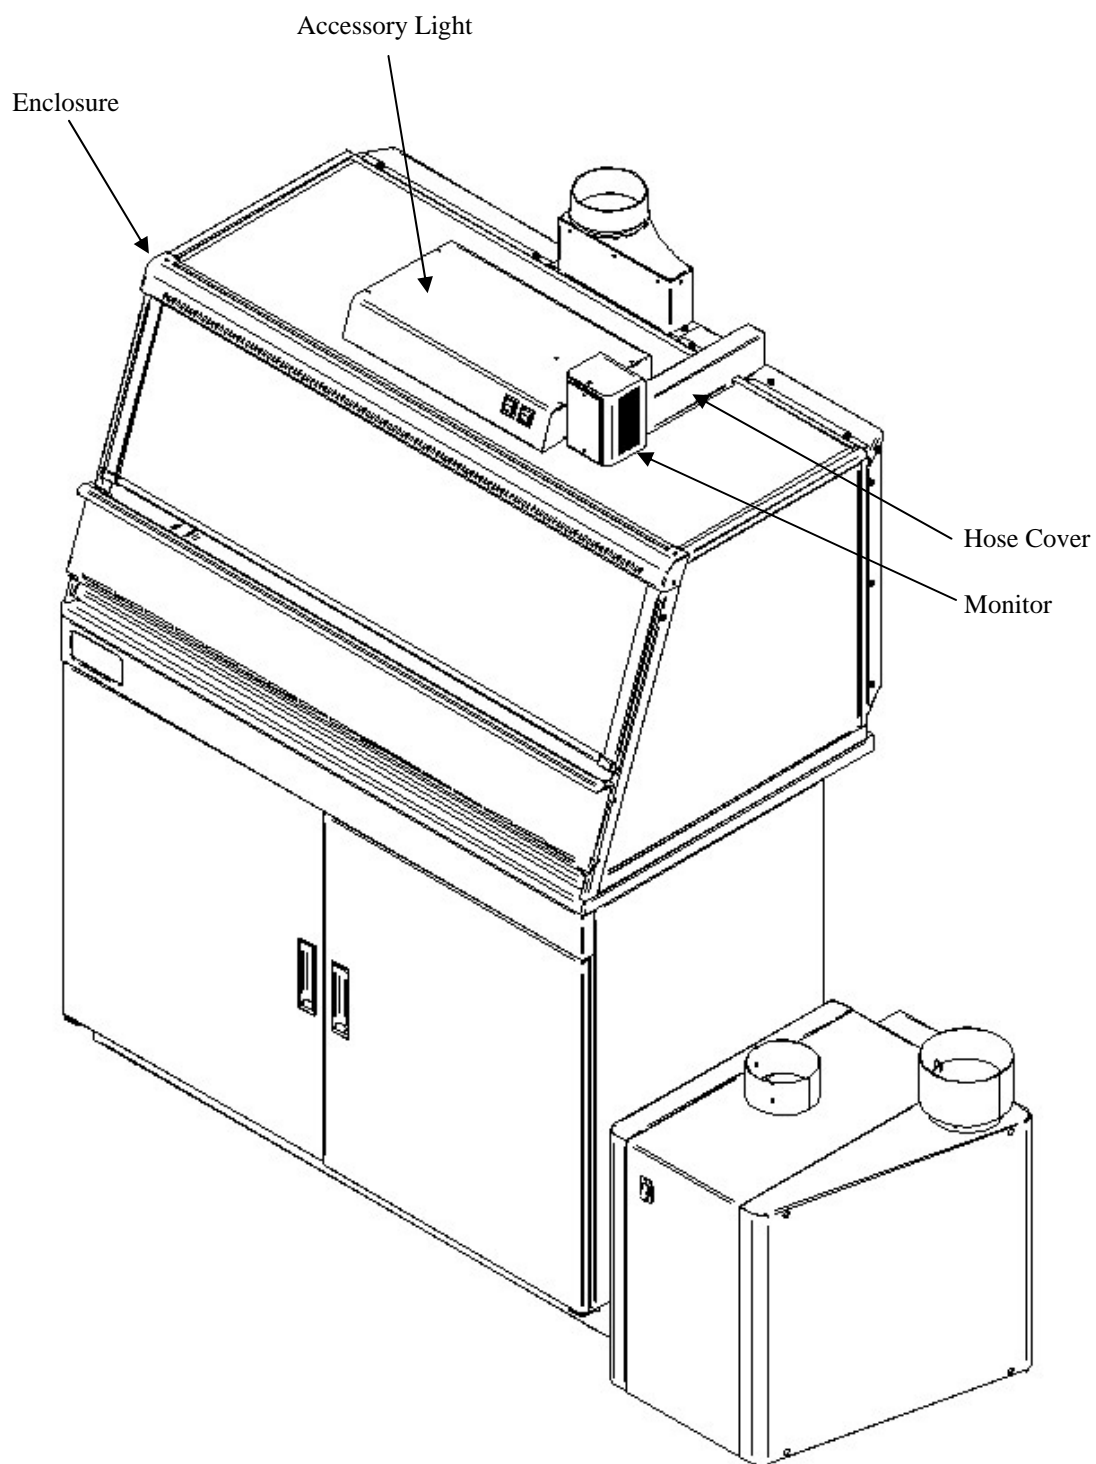

Figure 4
4. Secure the Guardian 500 Airflow Monitor to the enclosure with double stick tape as shown in Figure 4. The airway passage between the alarm module and the enclosure is now complete.
5. Locate the metal hose cover and install with double stick tape per Figure 4. (Omit this step on the Protector Work Stations.)